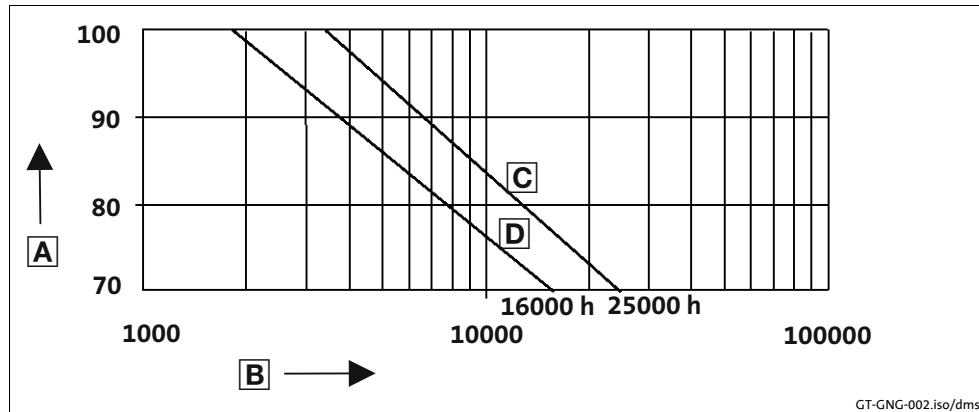

Fig. 13
- The lubricant maintenance interval depends on the oil temperature, see Fig. 13.